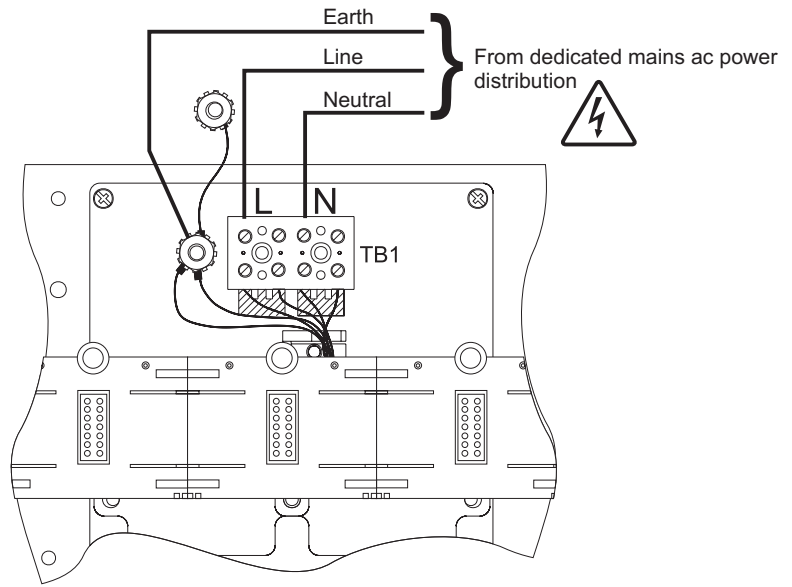

Figure-7: Mains ac wire connections
1. Ensure that the mains ac circuit is deenergized. Connect the mains ac conductors to TB1 on the power distribution assembly. Refer to Figure-7 on page 5.